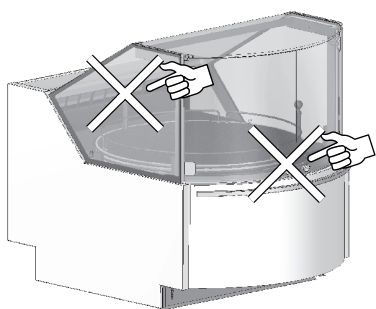

Fig. 21
- The goods do not obstruct the correct flow of refrigerated air ("Fig. 21").